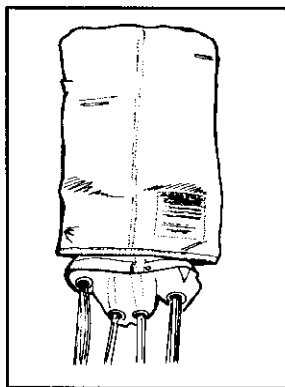

FIG 15
- Bring slider up the lines and lay on top of stabilizers. (FIG 15)
- Flake tail the width of deployment bag and smooth flat (FIG 15)